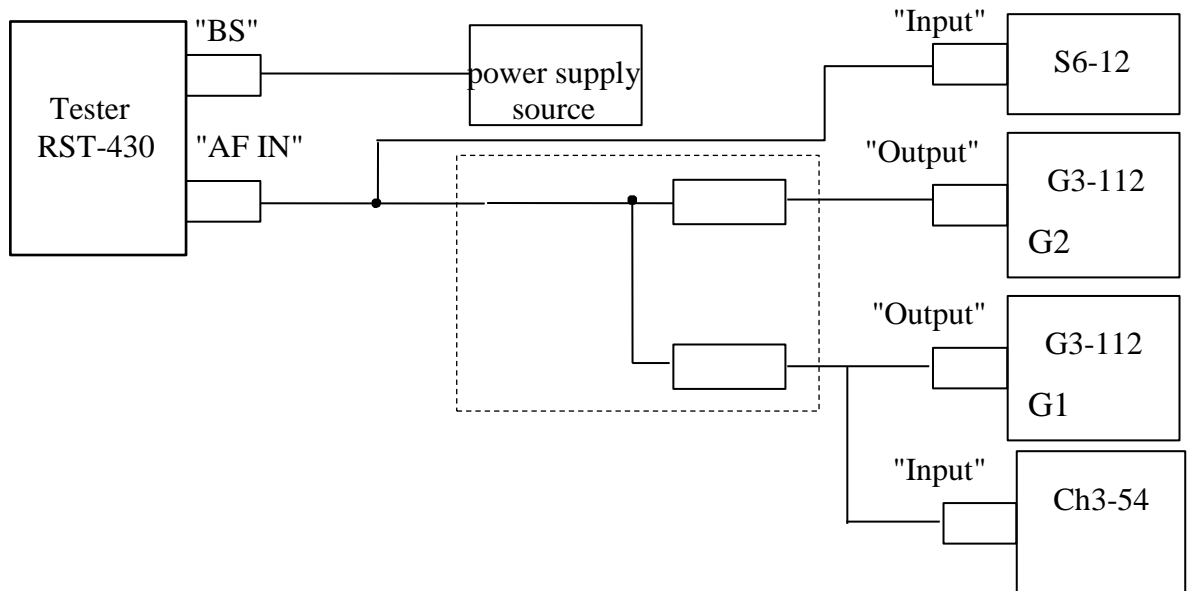

Fig.8, resistor resistance 600 Ohm.
6.3.11 Determination of the measurement error of the coefficient of nonlinear distortions is performed according to the diagram shown in figure 8.